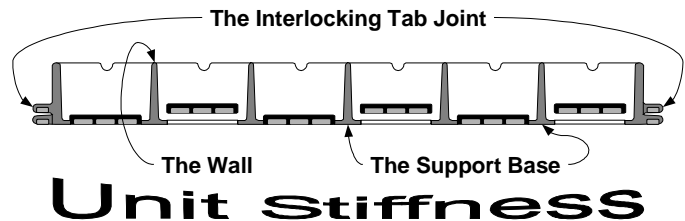

Figure 2 Components of the Geoblock Unit
The Geoblock unit (or any other similar material) must have five primary characteristics to adequately support loads (see Figure 2). Those characteristics are (1) suitable wall strength, (2) sufficient unit stiffness, (3) significant joint strength, (4) a supporting base and (5) a large overall area.